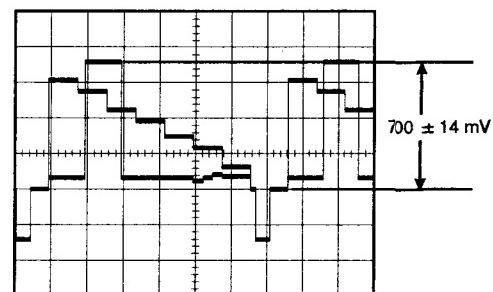

Fig. 5-1-8
- Adjust VR4 so that the COMP Y Level becomes 700 ± 14 mV as shown in Fig. 5-1-8.